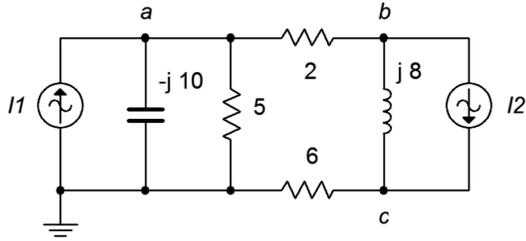

Figure 6.19
37. Given the circuit in Figure 6.19, use nodal analysis to determine  $v_{ac}$ .  $I_1 = 10\angle 0^\circ$ ,  $I_2 = 6\angle 0^\circ$ .
38. Use nodal analysis to find the current through the  $j8\ \Omega$  inductor in the circuit of Figure 6.19.  $I_1 = 3\angle 0^\circ$ ,  $I_2 = 5\angle 30^\circ$ .